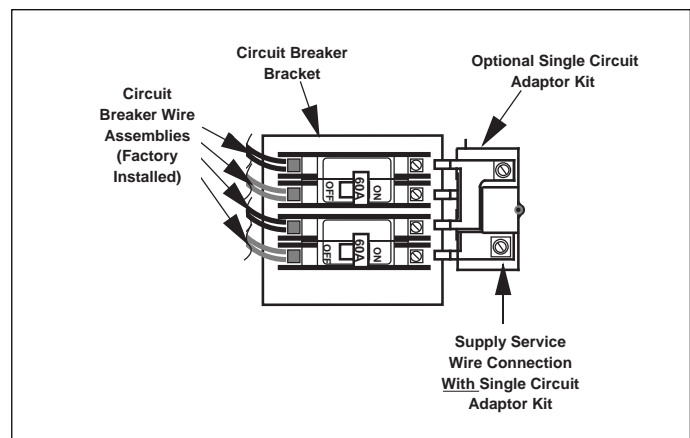

Figure 13. Installation of Optional Single Circuit Adaptor Kit
- -012 models are factory-wired for single-branch supply circuit (single-circuit kit installed). Dual-branch circuit can be used by removing factory-installed single-circuit kit (see Figures 13 and 14).
4. Insert supply service wire(s) through cable connector(s) and connect wires to circuit breakers (Figures 13 and 14).